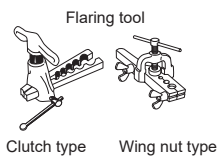

Figure 4
- 4) Flaring work (Figures 4, 5). Firmly hold copper pipe in the dimension shown in the table. Select A mm from the table according to the tool you use.